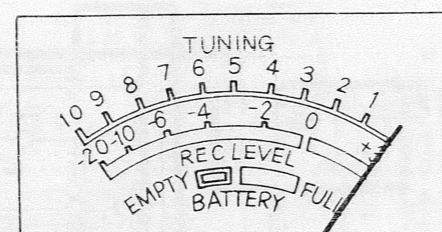

Fig. 8
- Adjust R₃₂ so that the pointer of level meter stays as shown in fig. 8.